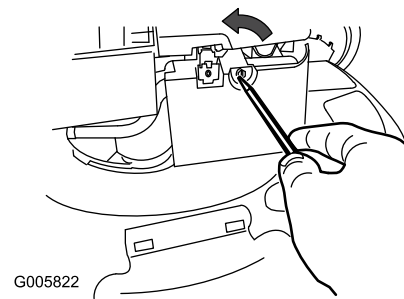

Figure 23
1. Use a screw driver to open the air-filter cover (Figure 23).